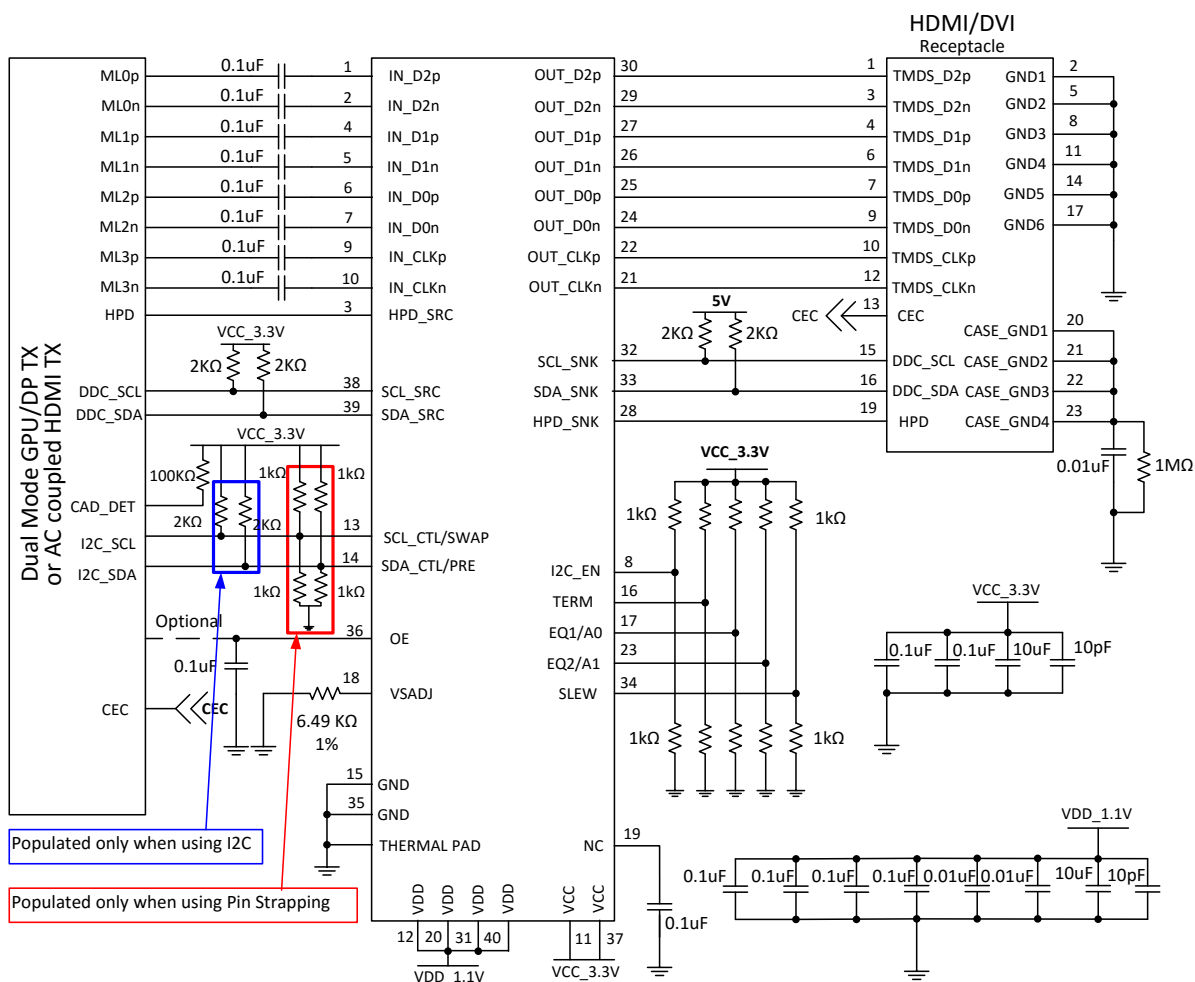

图 42. TDP158 in Source Side Application
图 42 provides a schematic representation of what is considered a standard implementation.
- Use the typical application 图 42 for information on control pin resistors.
- See schematics in 图 42 on recommended decouple caps from V_{CC} pins to Ground.